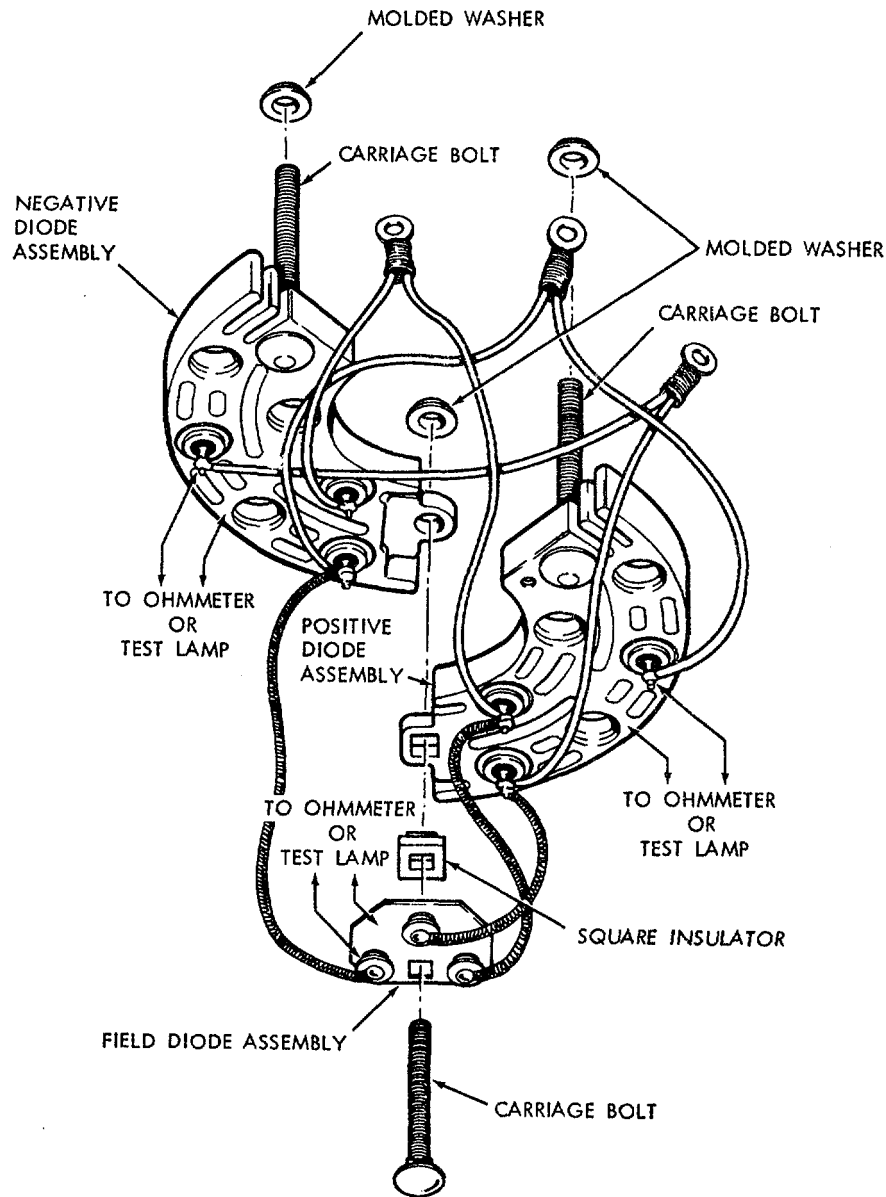

Figure 4-7. Diode testing (hulls 8540-8560 and 8580-8618).
(3) Test the field diode assembly as follows (refer to fig. 4-7):
Refer to figure 4-7 for proper location and arrangement of rectifier components.